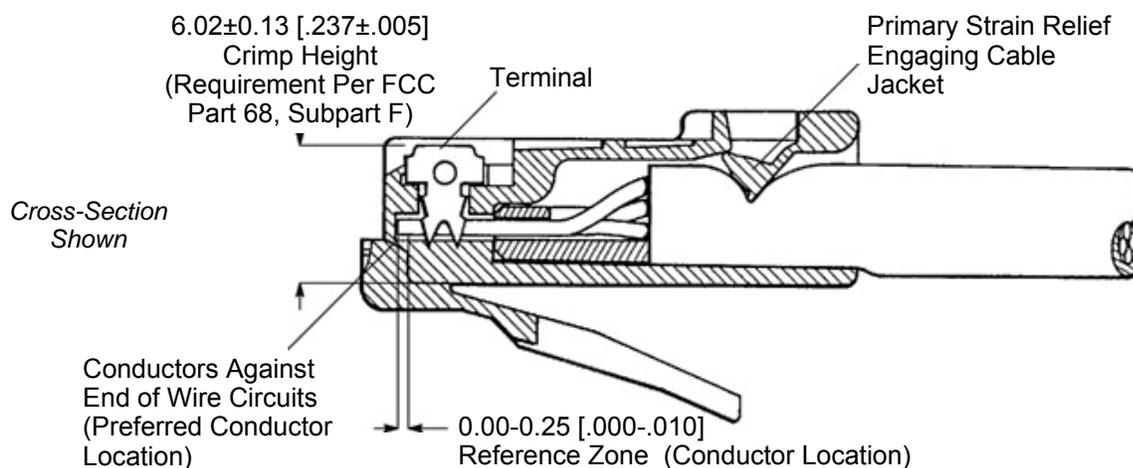

Figure 6
4. After termination, it is preferred that all conductors are bottomed against the end of the wire entry circuits. If individual conductors are not completely inserted in the housing, they must be inserted at least past the terminal and into the reference zone to ensure a proper electrical interface. Refer to *Figure 6*.
The crimp height shall be measured from the top of the terminals to the bottom of the housing (not including locking tab) and must be within the dimension provided in *Figure 6*.
The primary strain relief must be fully engaged on the cable jacket. The primary strain relief must be fully engaged to isolate the termination area from external forces applied to the cable. It is acceptable for the primary strain relief to cut into the jacket as long as the conductor insulation is not compromised. See *Figure 6*.